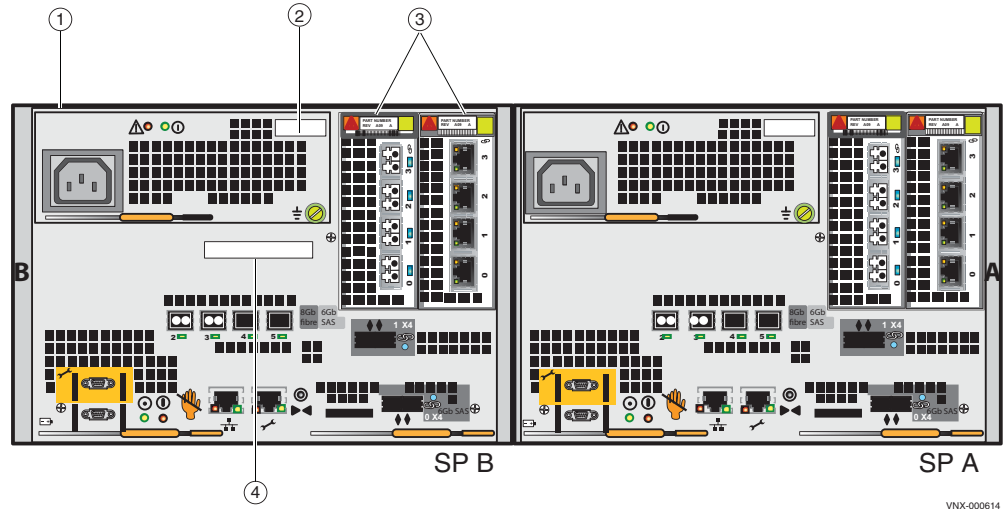

Figure 7 Example of a 3U DPE chassis with two SPs (A and B) and two I/O modules
Figure 7 shows a 3U disk processor enclosure (DPE) with two storage processors (SP A and B).
1. This part is not shown in the example DPE illustration in Figure 7 on page 12. For a closer view, go to Figure 21 on page 25.
2. This part is not shown in the example DPE illustration in Figure 7 on page 12. For a closer view, go to Figure 22 on page 26.
3. This part is not shown in the example DPE illustration in Figure 7 on page 12. For a closer view, go to Figure 23 on page 27.
4. This part is not shown in the example DPE illustration in Figure 7 on page 12. For a closer view, go to Figure 28 on page 32.